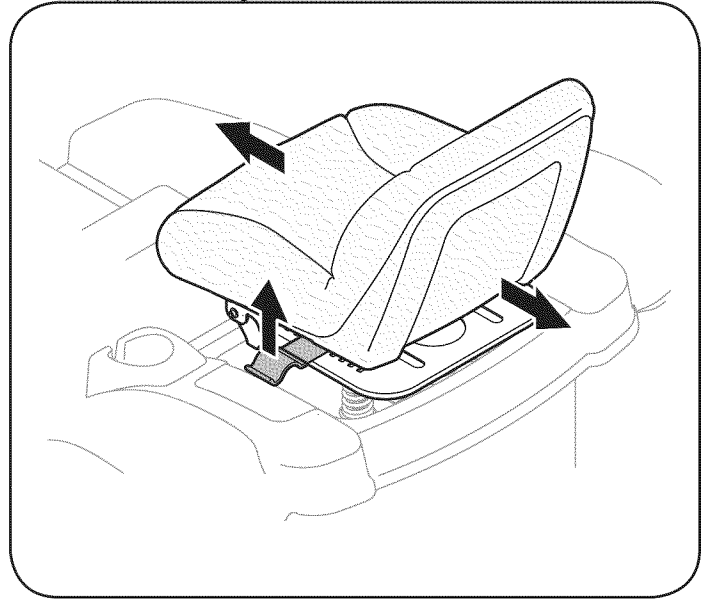

Figure 14
1. While sitting in the seat, grasp the seat adjustment lever on the left side of the seat and pull it upward to disengage from the seat index plate. See Figure 14.
2. Slide the seat to the desired position. See Figure 14.